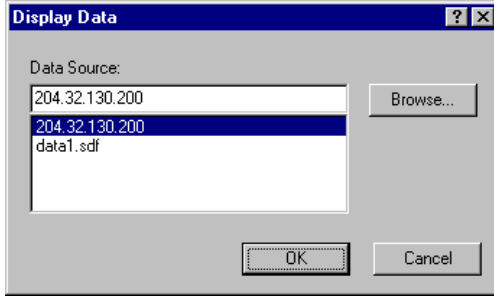

Figure 5-25. Display Data
1. Click Display Data. A Display Data dialog box opens (Figure 5-25).